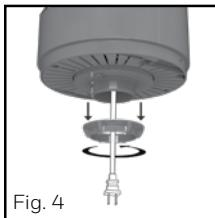

Fig. 4
- At the base of the housing, remove the locking nut and set aside (Fig. 4)